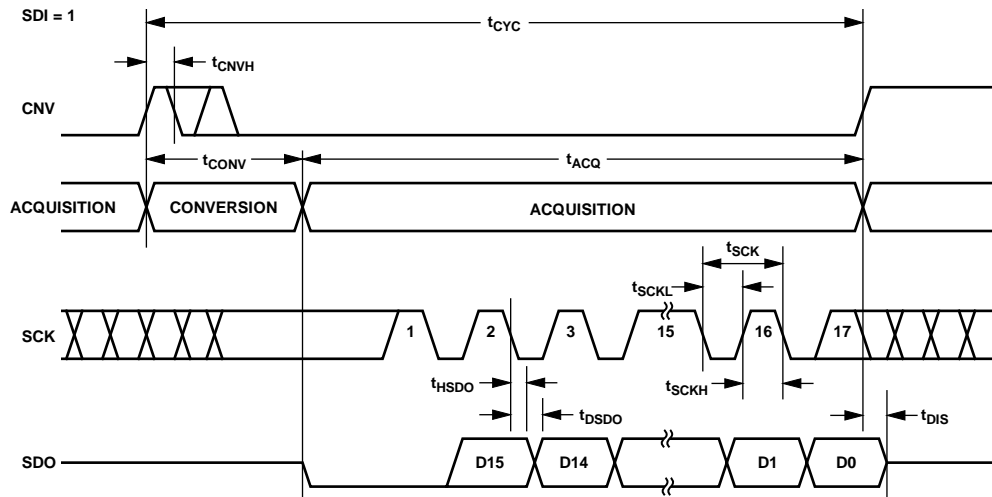
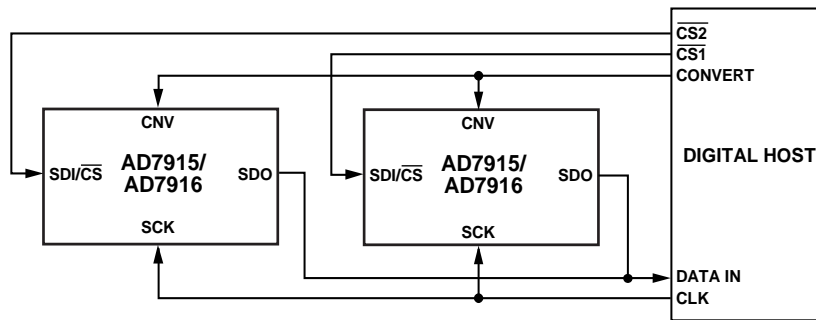
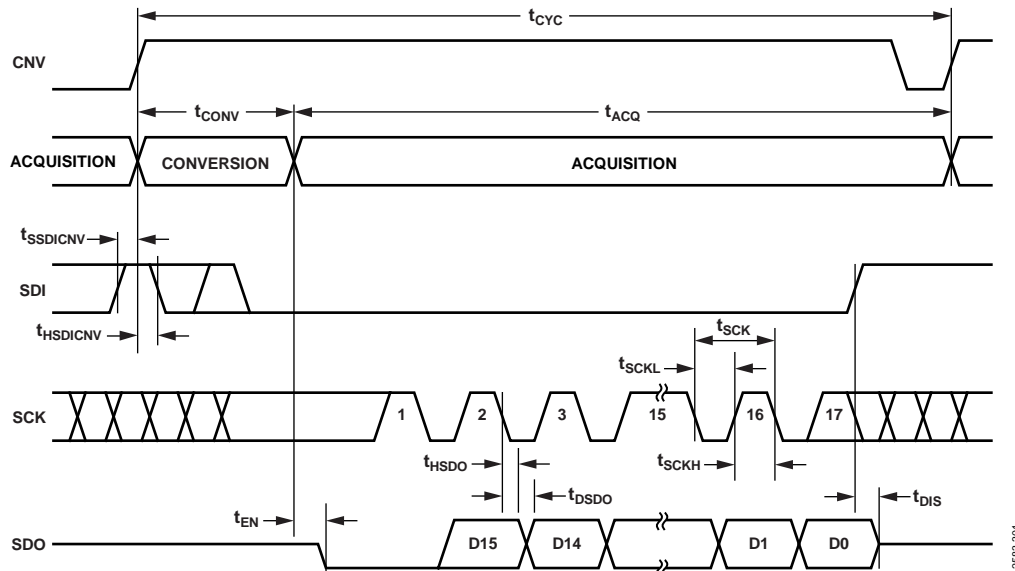
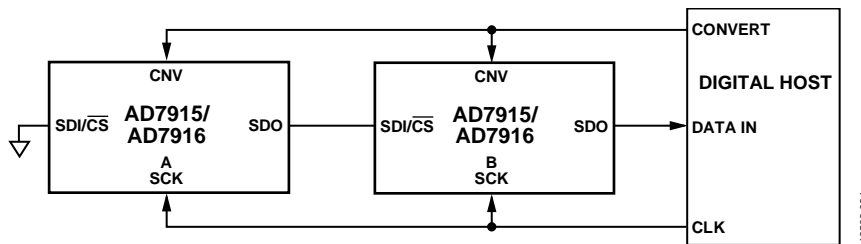

Figure 37. 3-Wire  $\overline{CS}$  Mode with Busy Indicator Serial Interface Timing (SDI High)
Figure 38.  $\overline{\text{CS}}$  Mode Without Busy Indicator, 4-Wire Connection Diagram
Figure 41. 4-Wire  $\overline{\text{CS}}$  Mode with Busy Indicator Serial Interface Timing
Figure 42. Chain Mode Without Busy Indicator Connection Diagram
- in  $\overline{\text{CS}}$  mode if CNV or SDI is low when the ADC conversion ends (see Figure 38 and Figure 42).
The connection diagram is shown in Figure 37, and the corresponding timing is given in Figure 38.
The connection diagram is shown in Figure 41, and the corresponding timing is given in Figure 42.